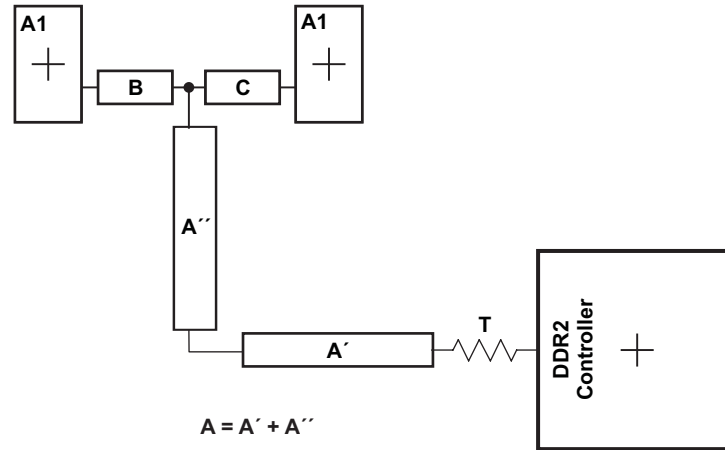

Figure 9-52. CK and ADDR\_CTRL Routing and Topology
Figure 9-52 shows the topology of the routing for the CK and ADDR\_CTRL net classes. The route is a balanced T as it is intended that the length of segments B and C be equal. In addition, the length of A (A'+A'') should be maximized.
- (1) The length of segment A = A' + A'' as shown in Figure 9-52.
- (2) Series terminator, if used, should be located closest to the processor.
- (3) Center-to-center spacing is allowed to fall to minimum (w) for up to 500 mils of routed length to accommodate BGA escape and routing congestion.
- (4) CACLM is the longest Manhattan distance of the CK and ADDR\_CTRL net classes.